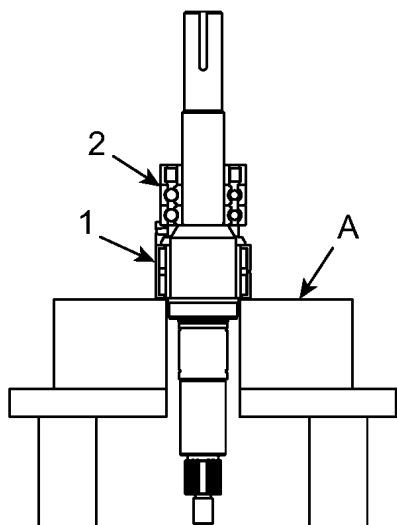

Figure 160 - Press bearings off shaft
2. Use a hydraulic press and V-blocks Figure 160, item A) to remove the bearings (items 1 and 2) and gear spacer (on drive shaft only, not shown).